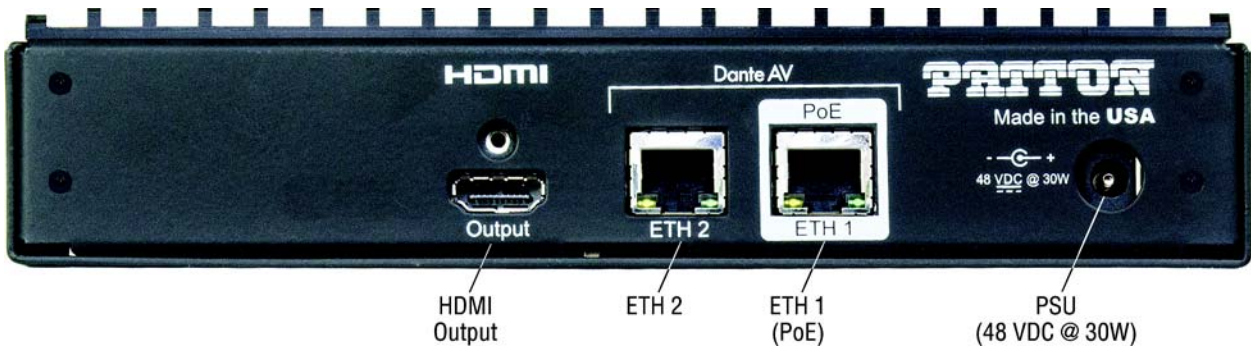

Figure 6. Decoder rear panel ports
Rear panel ports of the FPX6000 Series Decoder are shown in figure 6 and described in table 3.
3. Install cables on the rear panel of the FPX6000 Decoder (see figure 6 on page 18) as follows: